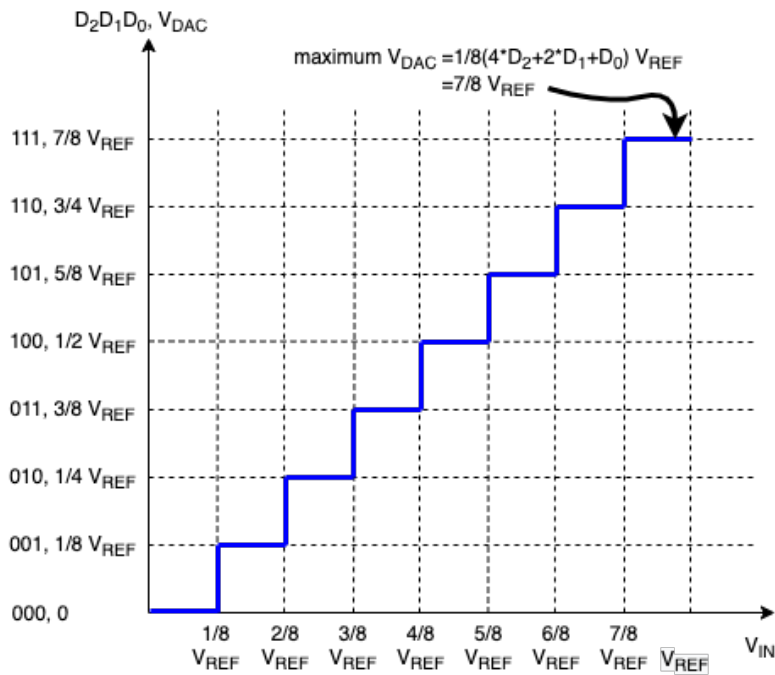

Figure 4: Voltage transfer curve of 3-bit SAR ADC
Before moving to the 4-bit ADC that will be implemented in the lab, let's take a look at a 3-bit SAR ADC as an example. The voltage transfer curve of the 3-bit SAR ADC is shown in Figure 4, where $D_2D_1D_0$ is the output digital code of the ADC. Notice that the maximum voltage of the V_{DAC} is $\frac{2^N-1}{2^N}V_{REF}$ where N is the number of bits ($N=3$ in this case.) The Least Significant Bit (LSB) of the ADC can then be derived as $\frac{1}{2^N}V_{REF}$. For $V_{IN} = 0.3V_{REF}$, the operation of the SAR ADC algorithm is shown in Figure 5. The corresponding DAC code and comparator output in each cycle are also denoted in the timing diagram. **Note:** In this lab, the waveforms are different from those in Homework 2. That is because in the homework, we switch the current bit to the correct code (0 or 1, based on the output of the comparator) at the same time as we switch the next bit to the trial code (1). But in the lab, we switch the current bit to the correct code first and then switch the trial code after half a cycle.